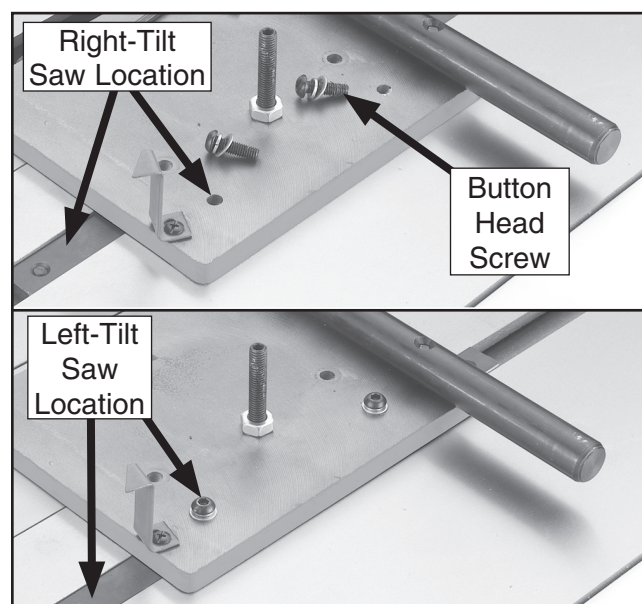

Figure 7. Guide bar locations.
6. Use the 4mm hex wrench to loosen and remove the two button head screws (**Figure 7**) that hold the guide bar to the base.
7. Reposition the guide bar to the other set of holes and reinstall the button head screws (see **Figure 7**).